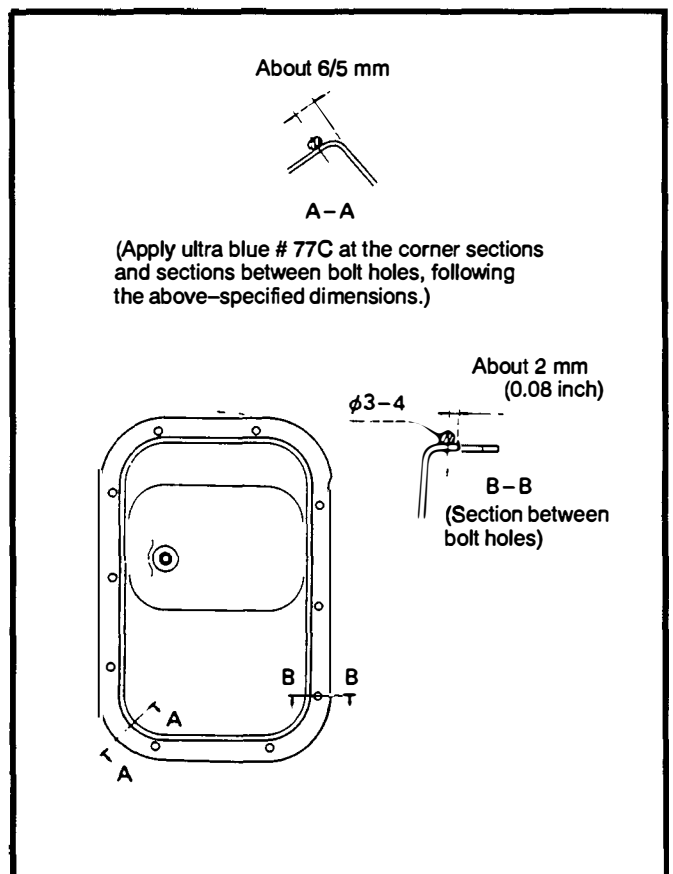

Figure 27.
15. Install the oil pan assembly using Permatex, **Ultra Blue #77C** material. Apply according to Figure 27.